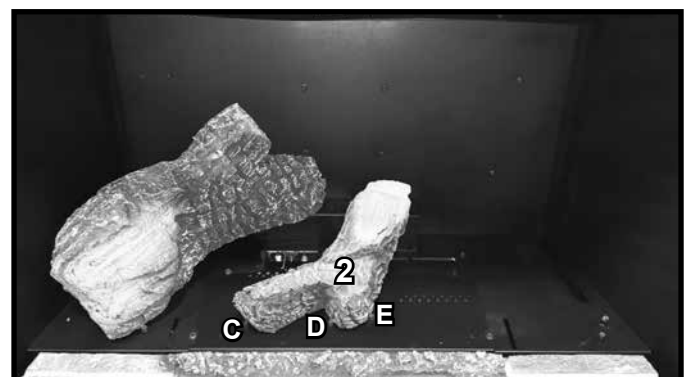

Figure 20. Log #2 Installed
**LOG #2:** The short side of the Y on Log #2 will sit between log pins D and E, the long end of the Y will sit against log pin C. The opposite end of Log #2 will sit on the air scoop. See Figure 20.